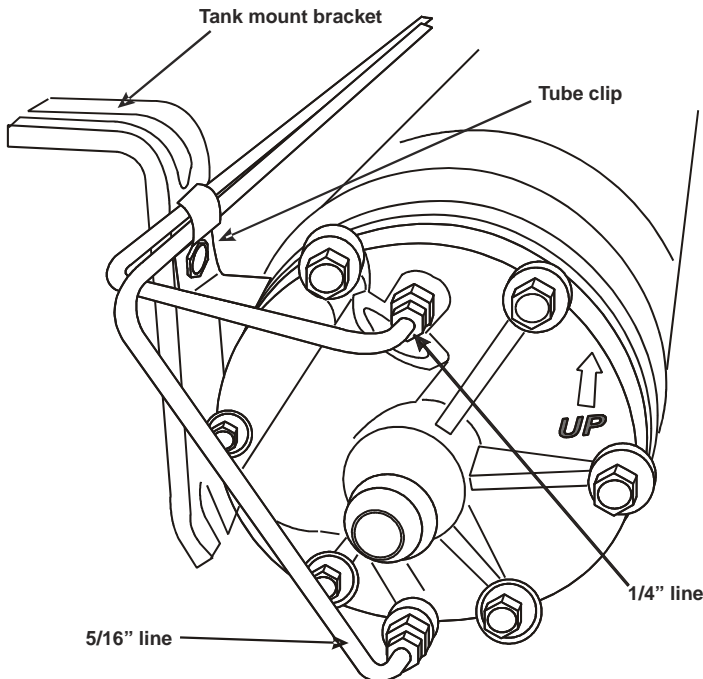

Figure 3.2
- ☐ Place the two insulated tube clips over the steel lines and align them with the top C-clamp mounting holes (Figure 3.2). Apply Loctite and insert 5/16 x 1/2 inch bolts through the clips and the C-clamp and thread them into the mount brackets. Slide the tank all the way down on the tank mount brackets (away from you) and tighten the mounting bolts.